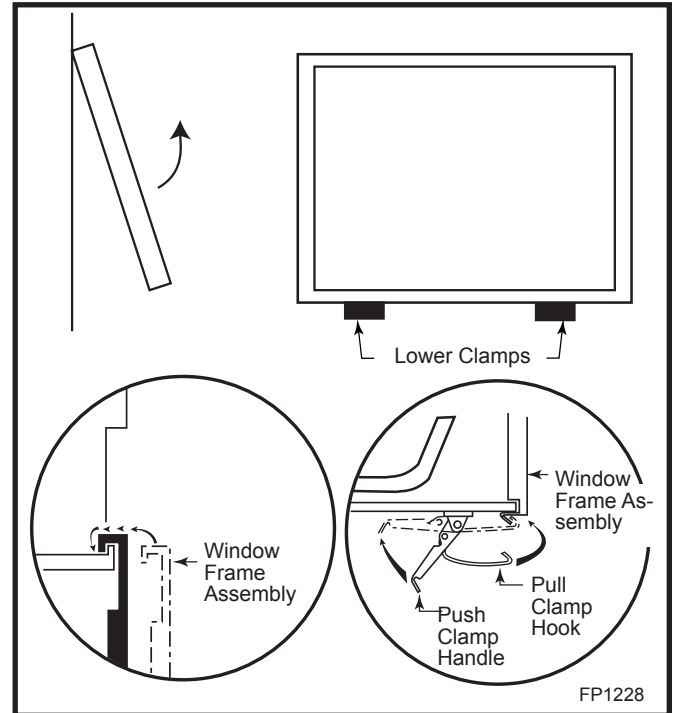

Fig. 41 Window frame assembly removal.
5. Release the two clamps securing the lower edge of the frame by pulling down on the handles. (Fig. 41)